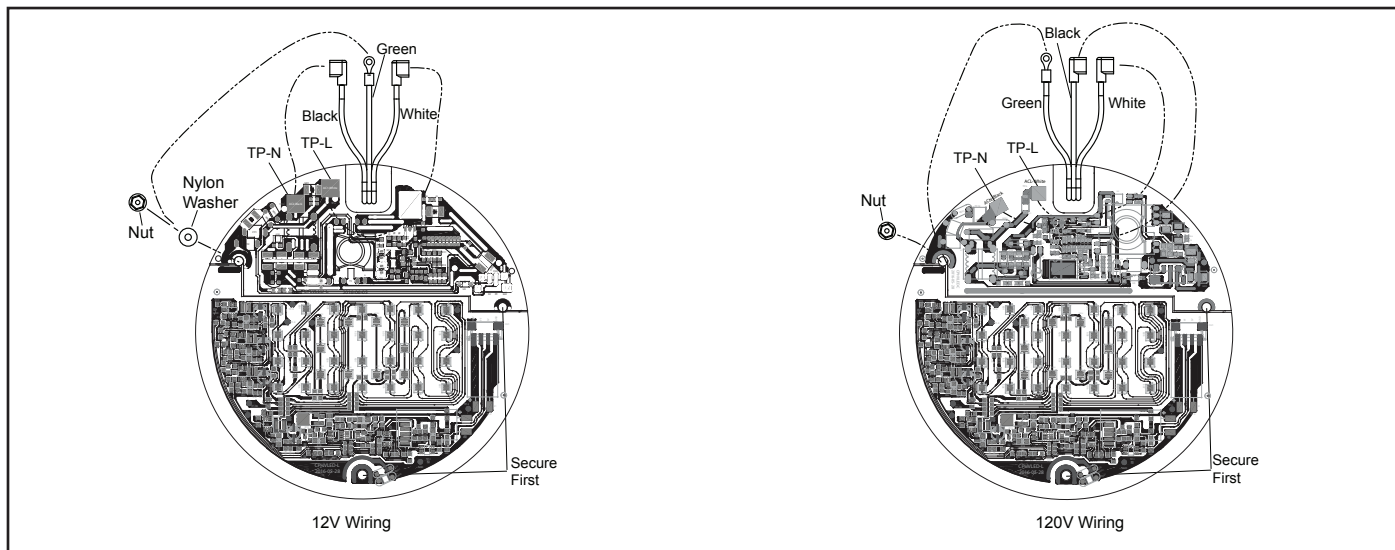

Figure 8. Large Light Engine (PCB) Replacement and Wiring
3. Remove three (3) nuts and washers.
6. Place new LED board and light driver board into the fixture with the orientation shown in Figure 8.